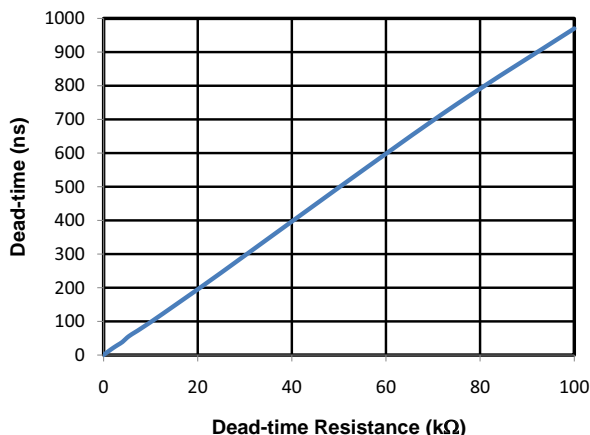

Figure 37. Dead Time vs. Resistance (R_{DT})
All high-side/low-side drivers (Si8241/4) include programmable overlap protection to prevent outputs VOA and VOB from being high at the same time. These devices also include programmable dead time, which adds a user-programmable delay between transitions of VOA and VOB. When enabled, dead time is present on all transitions, even after overlap recovery. The amount of dead time delay (DT) is programmed by a single resistor (RDT) connected from the DT input to ground per Equation 5. Minimum dead time (approximately 400 ps) can be achieved by connecting the DT pin to VDDI. Note that dead time accuracy is limited by the resistor's (R_{DT}) tolerance and temperature coefficient. See Figures 37 and 38 for additional information about dead time operation.